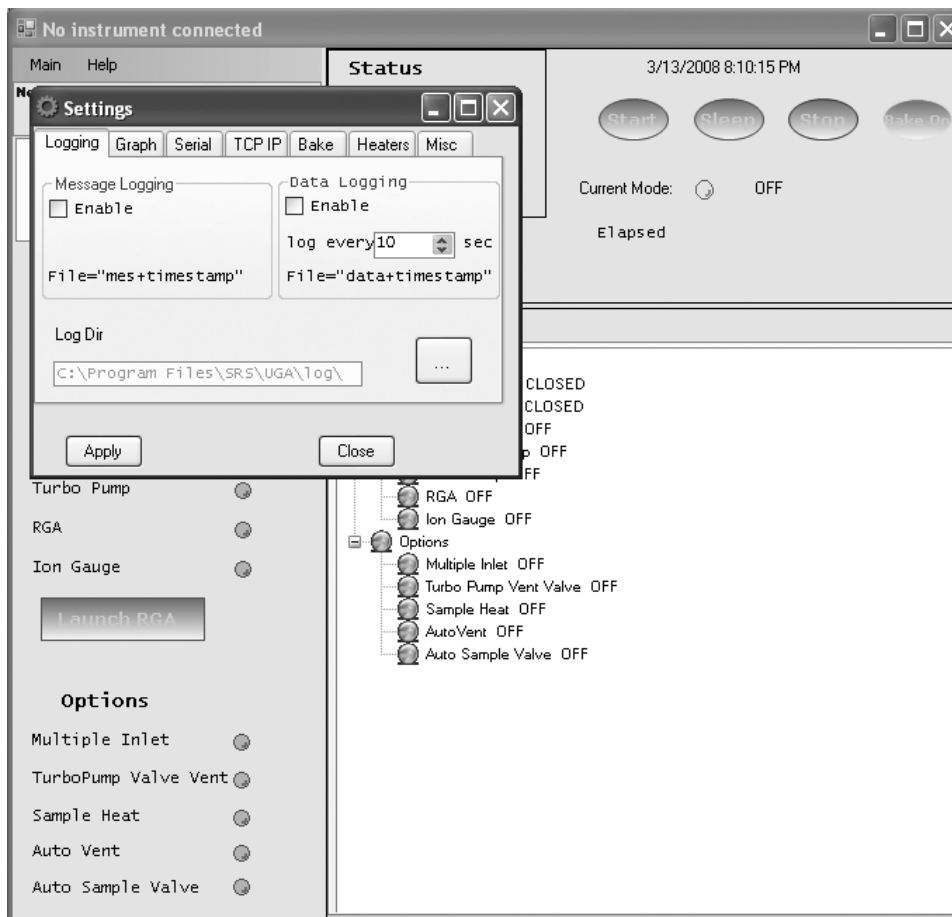

Fig. 2-4. Screenshot of UGA control software after selecting 'Setup' in the Main menu.
4. Click the "Main" tab of the UGA software, and select "Setup". The 'Settings' dialog box will pop up as shown in Fig. 2-4.